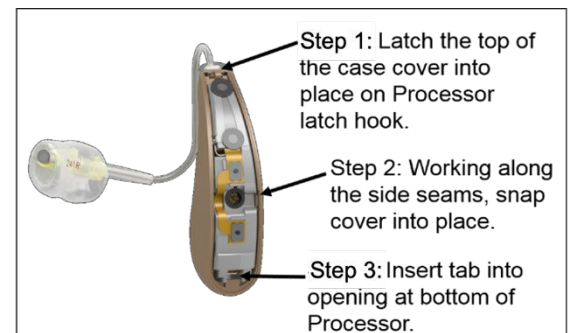

Figure 45: Processor cover replacement
5. Once the hearing aids are discovered, the First Name + Hearing Aid and R+L* will display (Figure 45).